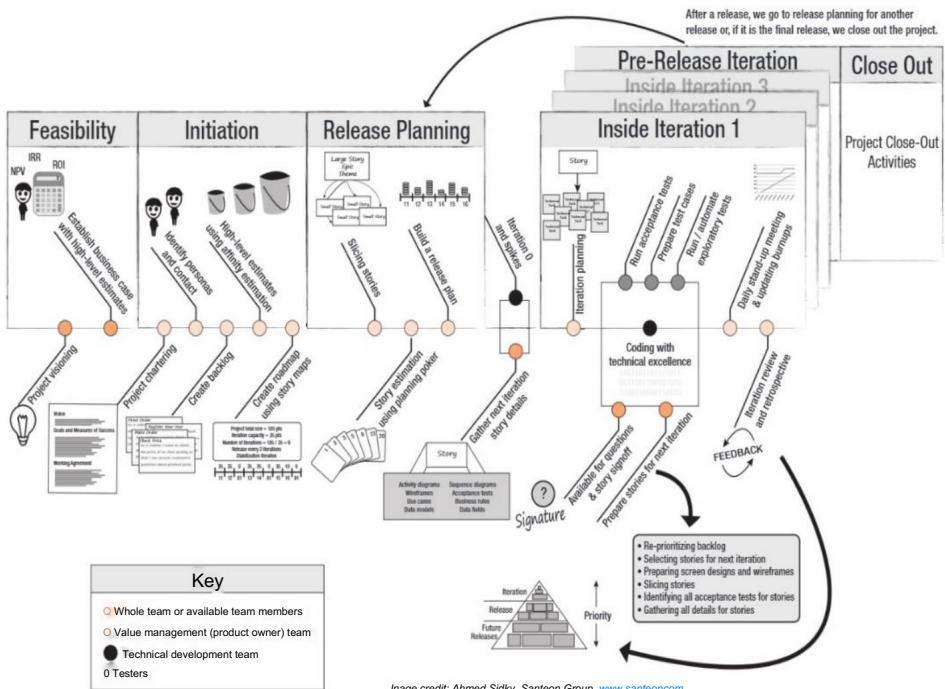

FIGURE 2.16 Agile Process Overview
Read through the concepts in the first column (the Agile column), and study how they are illustrated in the Agile Process Overview in figure 2.16. The Agile Process Overview will help you better understand the agile model. Next, read through the concepts in the plan-driven column and go back to Rita's Process Chart™ earlier in this chapter and read through it again.
Agile (Agile Process Overview, figure 2.16): Initiating
Agile (Agile Process Overview, figure 2.16): Release Planning and Iteration Planning
- Cost and schedule (not shown on figure 2.16): Cost is stable and estimated early; scope is emerging and more negotiable.